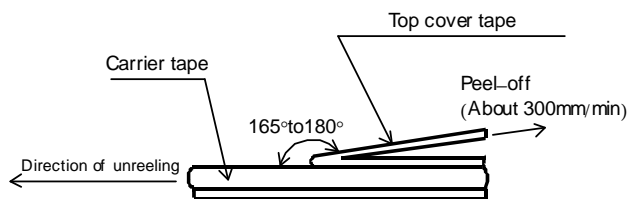
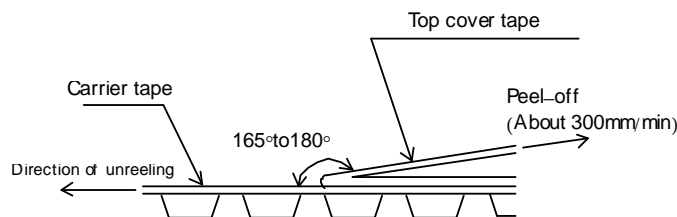

Figure-6
Figure-7
- 5). The peel strength of the top cover tape shall be within 0.1N to 0.5N on the test method as shown in the following RMC10, 16, 20, 32: Figure-6, RMC35: Figure-7.